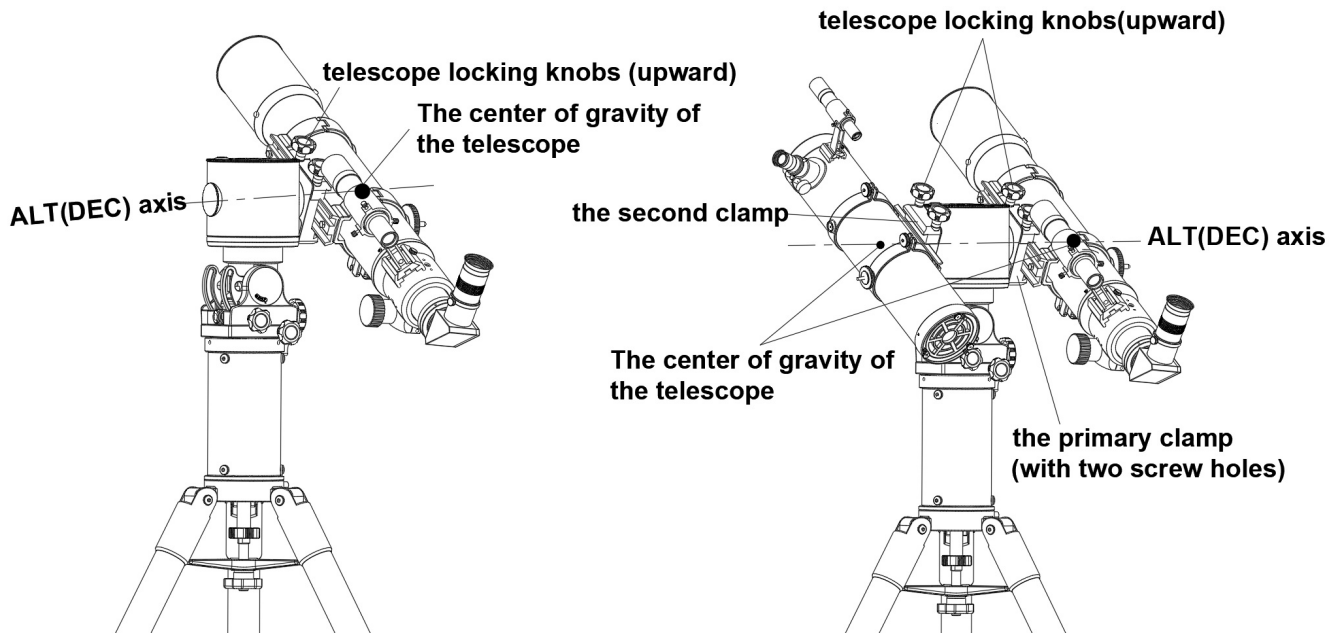

Fig. 8
In Alt-Azimuth (AZ) Mode (Fig.8):